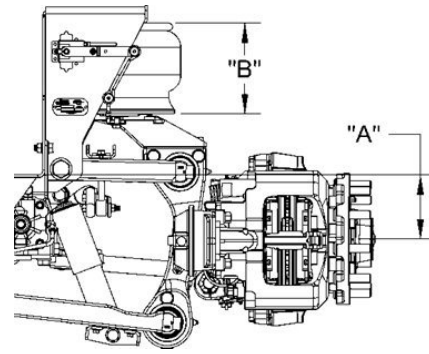

Figure 8 – Ride Height Measurement
3. Verify the ride height by measuring from wheel center to the bottom of the frame ("A") or air spring height ("B"). If the dimensions are not within $\pm .125$ " of (Figure 8), readjust.
4. The actuation arm of the height control valve should be horizontal at ride height (Figure 8). See section for adjusting to correct ride height.